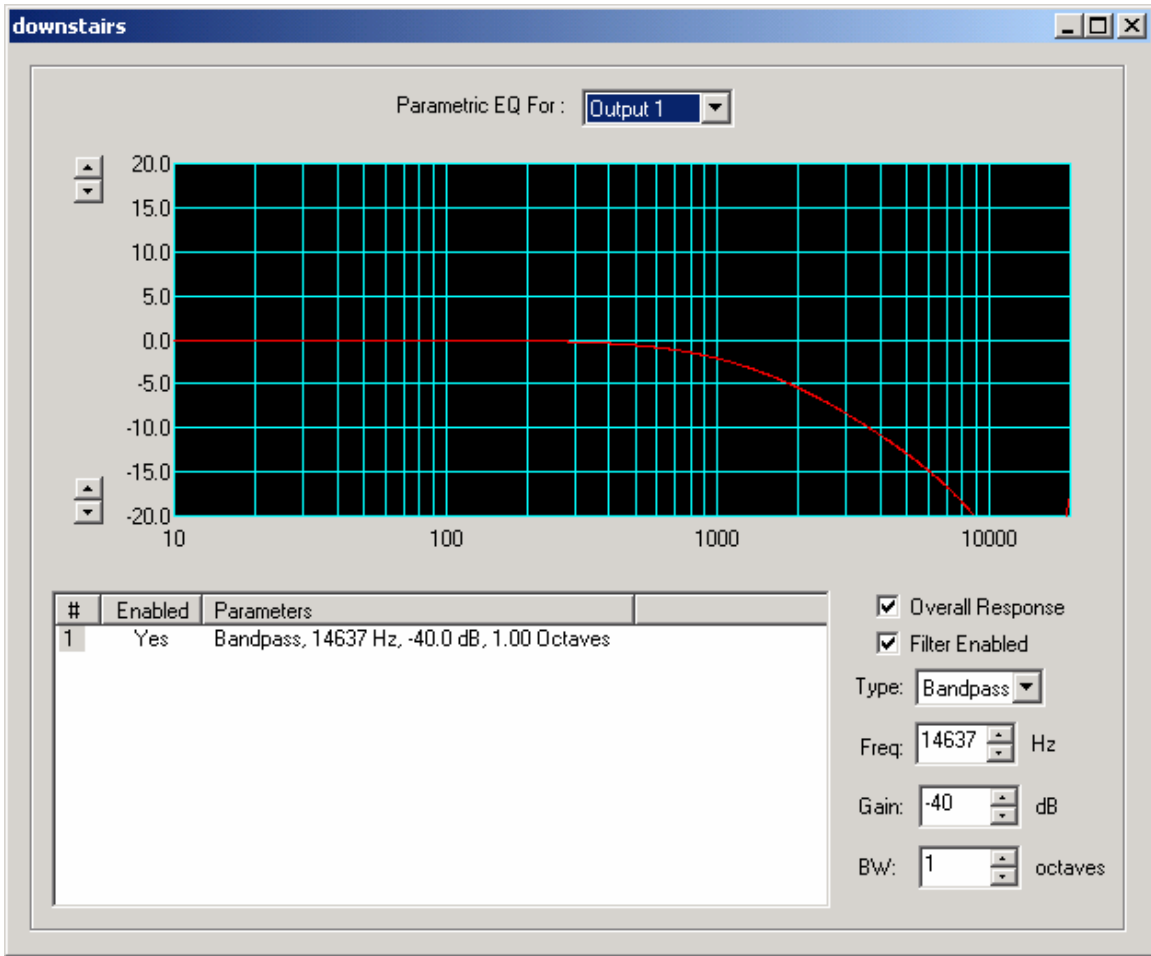

Figure 16. Parametric Equalization Dialog.
8. Parametric EQ – brings up the parametric EQ dialog shown in Figure 16. It shows a list of filters defined for the selected output. It allows the filter parameters to be modified. The frequency response of each filter and the overall response are plotted. The filter frequency and the gain can also be modified by clicking in the plot window.